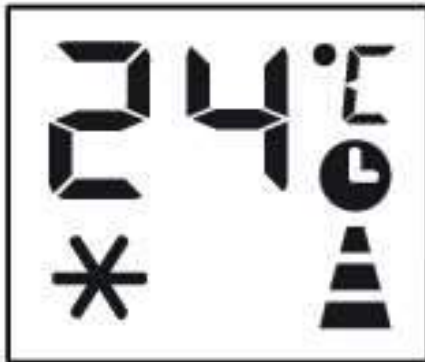

Fig 5
- Press the  button, the screen will display 1~24 hours, and several symbols are flash together. (Fig. 5)